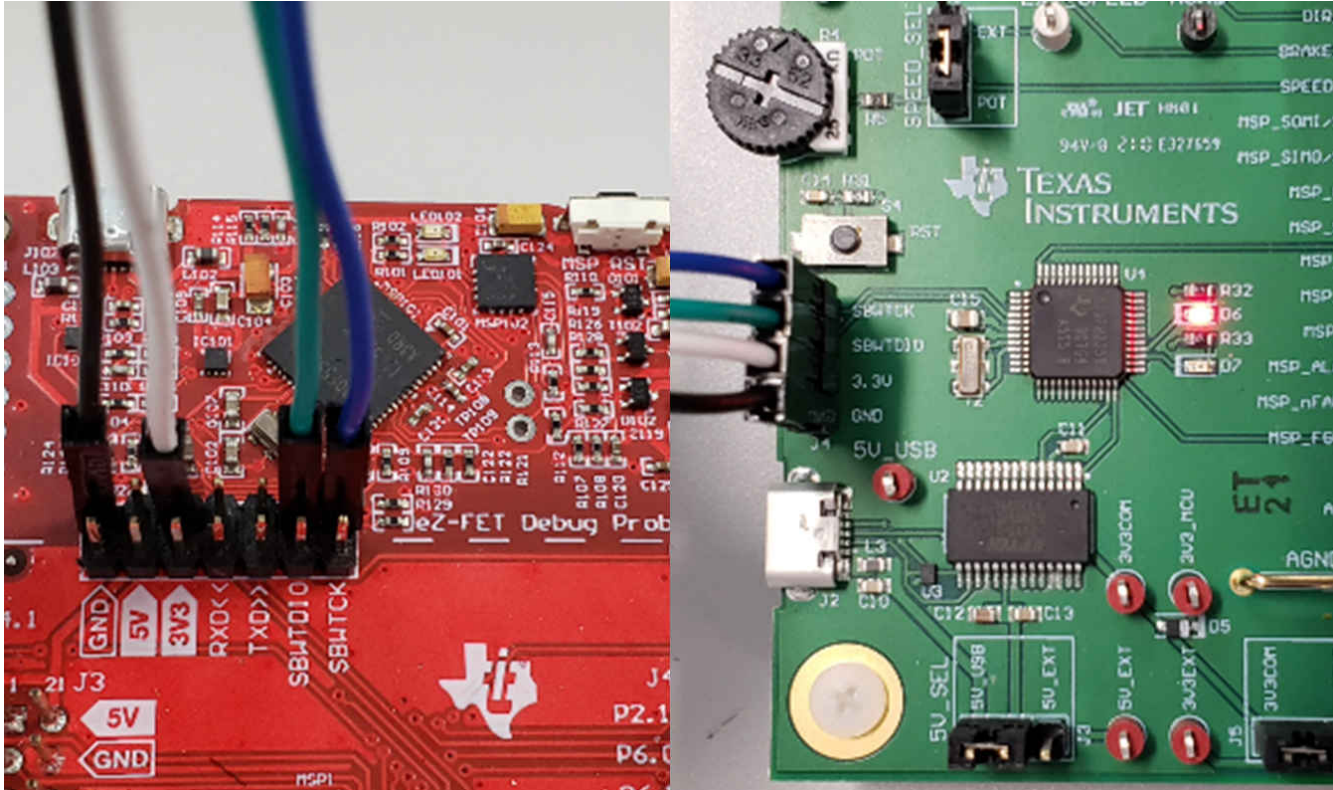

Figure 7-2. MSP430 LaunchPad™ eZ-FET Probe Connected to MCF8316AEVM
2. Connect the top pins on the eZ-FET side of the LaunchPad of the GND, 3V3, SBWTCK, and SBWTDIO signals to their respective pins on J4 of the MCF8316AEVM as shown in Table 7-1 and Figure 7-2.